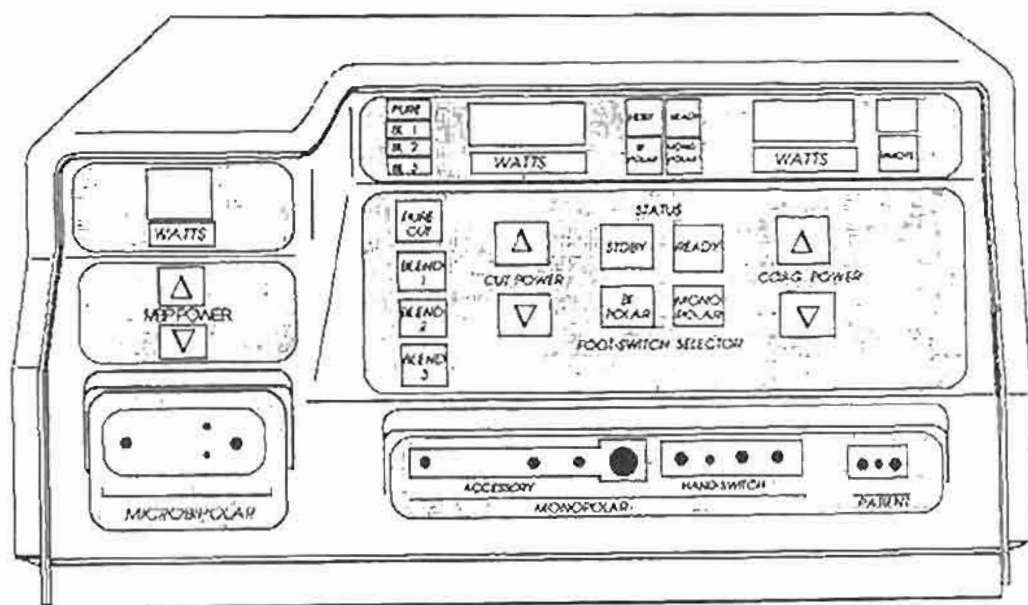

Figure 1-1. Electrosurgical apparatus.
This manual describes the electrosurgical (ES) apparatus (fig 1-1); provides equipment technical data; and provides operational and maintenance functions, services, and actions. Additional information follows:
a. *Type of manual.* Unit, direct support (DS), and general support (GS) maintenance (including repair parts and special tools list).